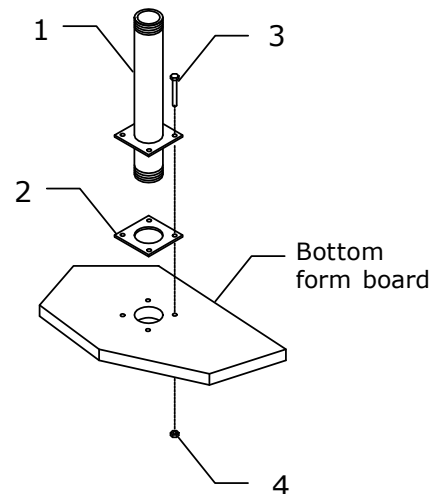

Figure G-4
3. Waste (septic) water 2-inch, figure G-4.